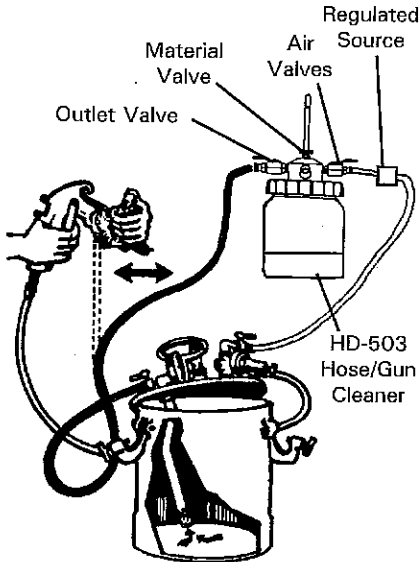

Figure 7
2. Relieve air pressure in tank, loosen and set tank lid aside as shown in Figure 7.
4. If at all possible, use a HD-503, 2 quart hose cleaner, and clean hose as follows. See Figure 7.